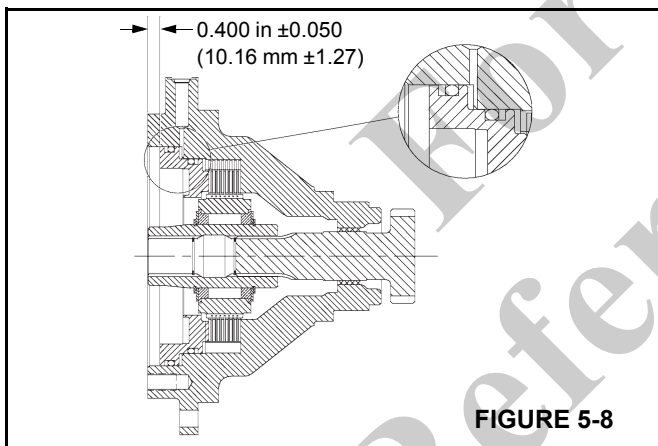

FIGURE 5-8
13. Install the stator plates (19) and friction discs (18) into the brake housing starting with a stator and alternating friction discs and stator plates. There is one more stator plate than friction disc so you will finish with a stator plate.
14. After installation, check the brake stackup to make sure that the dimensions are within the tolerance shown in Figure 5-8. If your measurement is greater than shown, either some friction discs and stator plates have been left out, or the friction discs are worn beyond acceptable tolerances. If your measurement is less than shown, too many plates or discs have been inserted or they are not seated properly.
15. Coat the new backup rings (Items 7-7 & 7-8) and o-rings (Items 7-1 & 7-6) with light oil and install onto the piston (10) with the backup rings toward the outside of the piston. See Figure 5-8 for proper o-ring and backup ring installation.